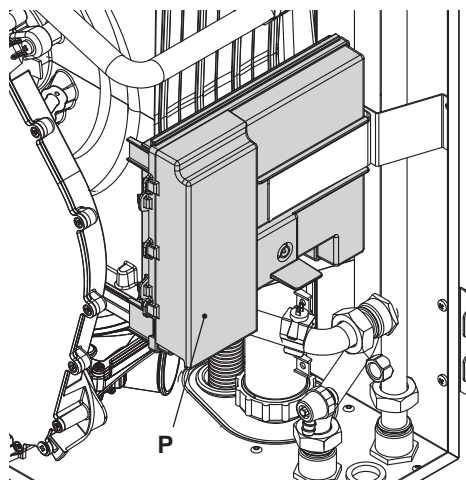

Fig. 6.15
- Identify the terminal block cover lid " N " (Fig. 6.15) and open it.